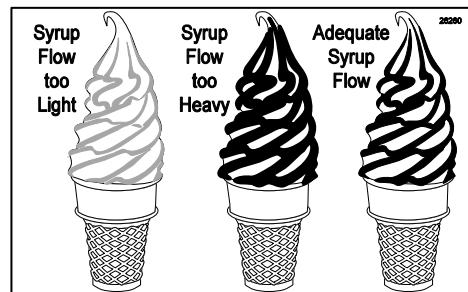

Figure 178
4. Determine if the serving needs more or less syrup and adjust according to the following instructions. (See Figure 178.)